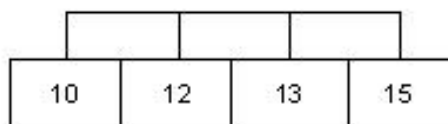

Figure 6 – Configuration 6
- 1.18 Perform a continuity check at the PAM side (top) of the terminal rail, to verify the following configuration (Figure 6):